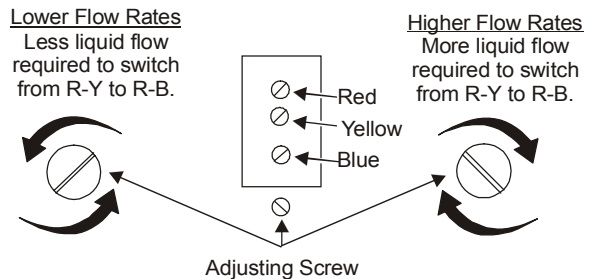

Figure 8: Flow Rate Adjustment
3. Turn the adjusting screw **clockwise** to **raise** the flow rate. Turn the adjusting screw **counterclockwise** to **lower** the flow rate. See Figure 8.